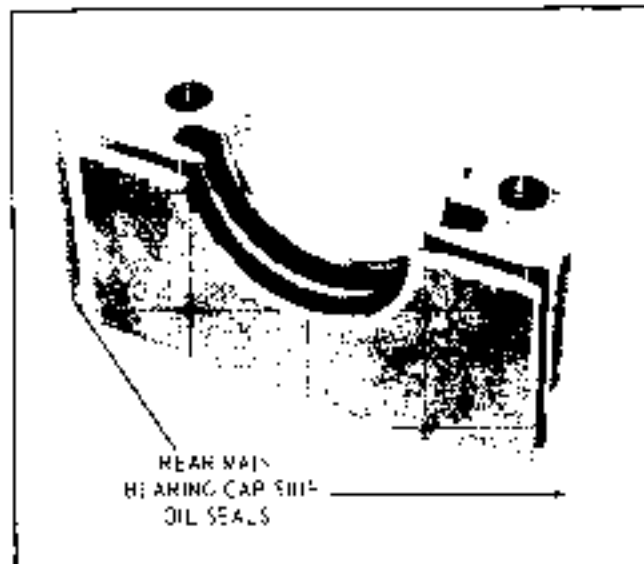

Fig. 6-45. Rear Main Bearing Cap Side Oil Seals
4. Remove rear bearing cap side oil seals. Place new seals in position and place bearing cap in vise and compress seals into place (Fig. 6-45).